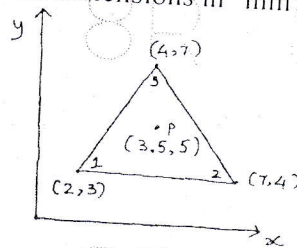

Figure 2
b) Determine the shape functions  $N_1$ ,  $N_2$ , and  $N_3$  at the interior point P for the triangular element shown in figure 2. All dimensions in "mm". [5+5]